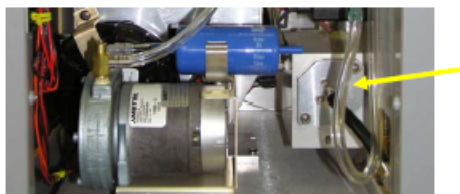

Figure 6-11
2. Access the instrument from the front and locate the electrometer at the bottom of the device next to the pump as shown in Figure 6-11.